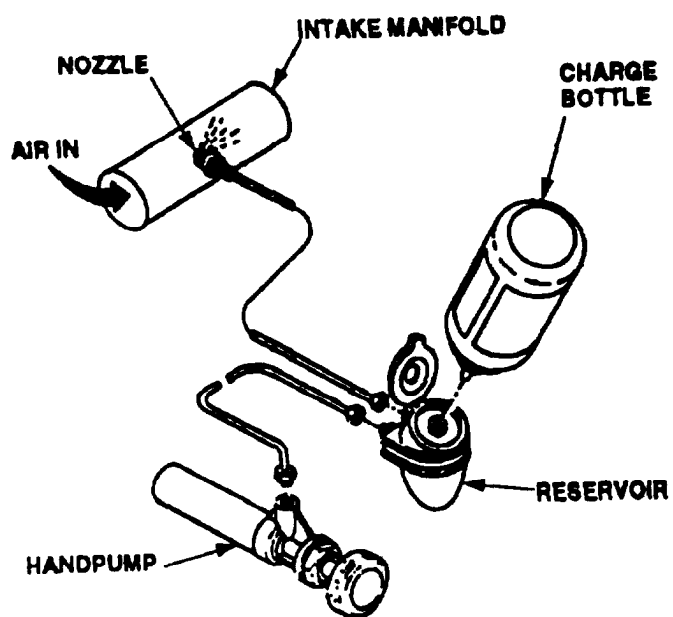

Figure 1-5. Cold Start System (Models 350 PAW and W-87012).
a. The cold start system (figure 1-5) on all models except model 350 PAWN is strictly a mechanical system and operates as follows: The reservoir is filled with starting fluid by first opening the cover, setting the ether bottle on the reservoir and pushing down to penetrate the seal, This allows fluid to gravity feed into the reservoir. The bottle is removed when the reservoir is full to the MAXI line. The handpump is operated just prior to initiating the start sequence to inject starting fluid into the intake manifold of the engine through the nozzle.